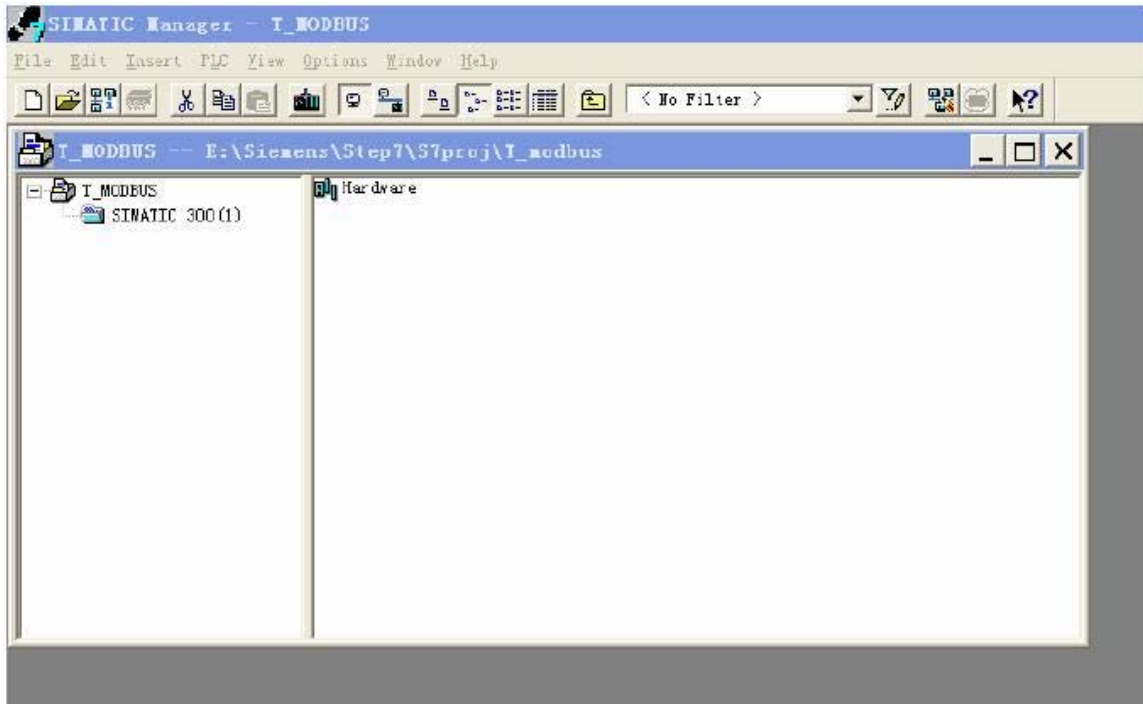

Figure 4
4 Open SIMATIC 300(1) and then double-click Hardware, open S7 PLC hardware configuration, Figure4: